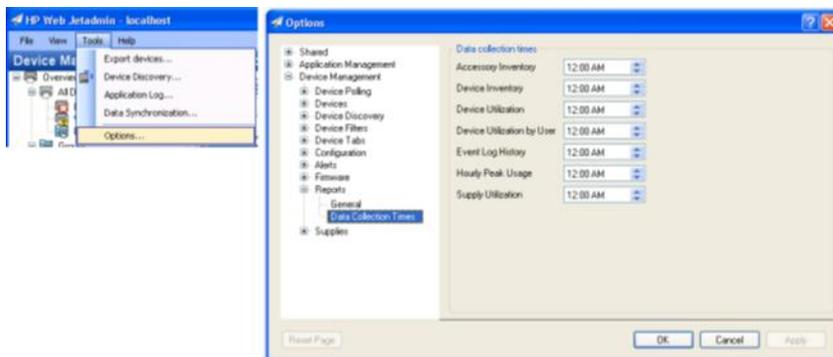

Figure 16: Data Collection Times option
- All data collection times are initially set to 12:00 a.m. However, each data collection time can be configured to any hour of the day. This can be done by going to **Tools > Options > Device Management > Reports > Data Collection Times** (Figure 16).